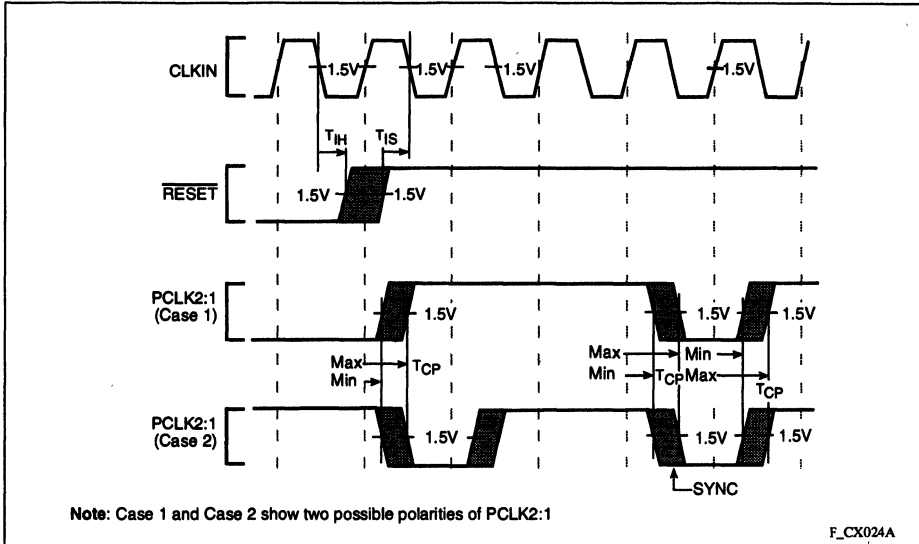

Figure 21. Clock Synchronization In the 2-x Clock Mode
13. In 2-x clock mode, \overline{RESET} is an asynchronous input which has no required setup and hold time for proper operation. However, to guarantee the device exits reset synchronized to a particular clock edge, the \overline{RESET} pin must meet setup and hold times to the falling edge of the CLKIN. (See Figure 21.)